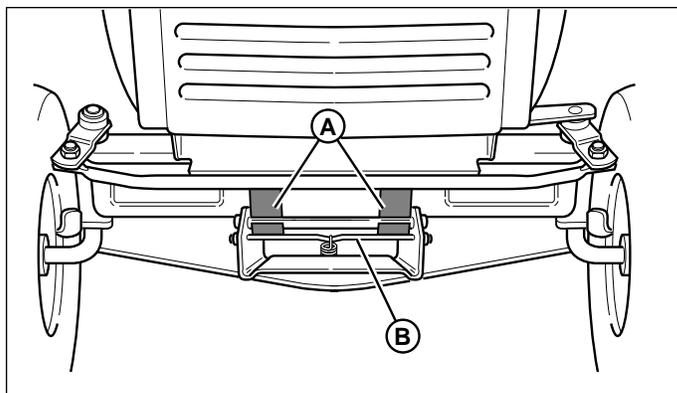

Figure 6. Mower Hitch
5. Turn the wheels straight ahead. Pull back on spring-loaded lever (B, Figure 6) and lift mower hitch off of the tractor brackets (A).
2. Place mower in the lowest cutting position using the mower height adjuster. Slide the mower deck under the right side of tractor so that the mower hitch is aligned with front tractor hitch (A, Figure 6).
3. See Figure 6. Turn wheels straight. Pull back on the spring-loaded lever (B) while lifting up on the mower hitch. Install the mower hitch onto tractor hitch brackets (A). When properly installed, the spring-loaded lever should seat fully underneath the brackets (A).